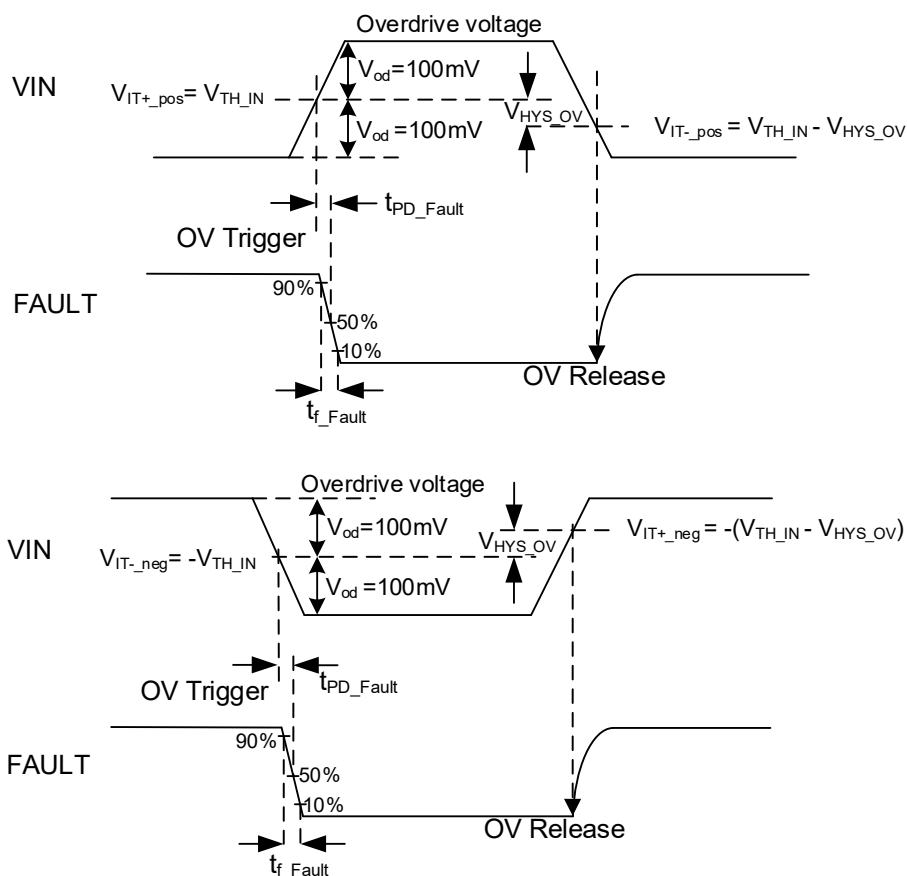

Figure 6.2 Propagation Delay and Output Fall Time Definition for Protection Comparator
- (1) The temperature drift is calculated within the whole temperature range (-40°C to 125°C).
- (2) Input referred.
- (3) THD is defined as the ratio of the sum of the rms value of first five higher harmonics to the amplitude of the fundamental (input referred).
- (4) $V_{IT+_{pos}}$ is the positive-going trip threshold (refer to input voltage) for positive trip threshold, $V_{IT-_{pos}}$ is the negative-going trip threshold (refer to input voltage) for positive trip threshold, refer to Figure 6.2.
- (5) $V_{IT-_{neg}}$ is the negative-going trip threshold (refer to input voltage) for negative trip threshold, $V_{IT+_{neg}}$ is the positive-going trip threshold (refer to input voltage) for negative trip threshold, refer to Figure 6.2.